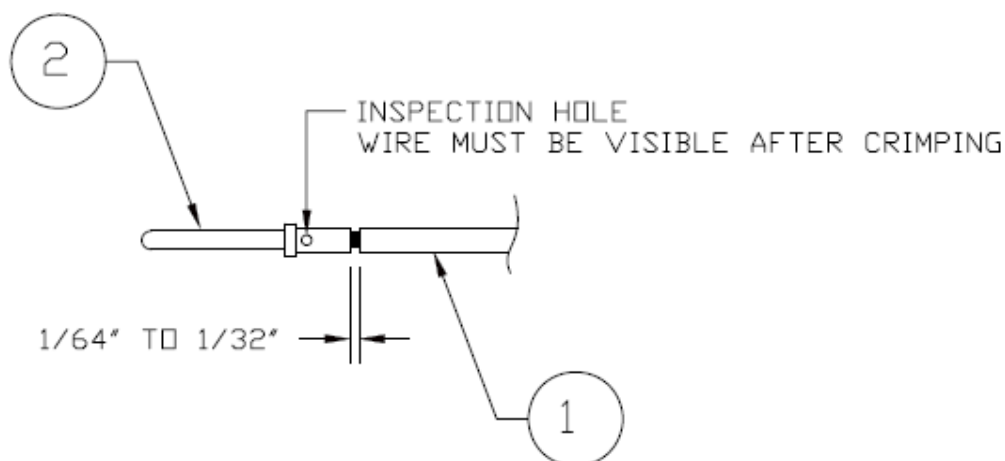
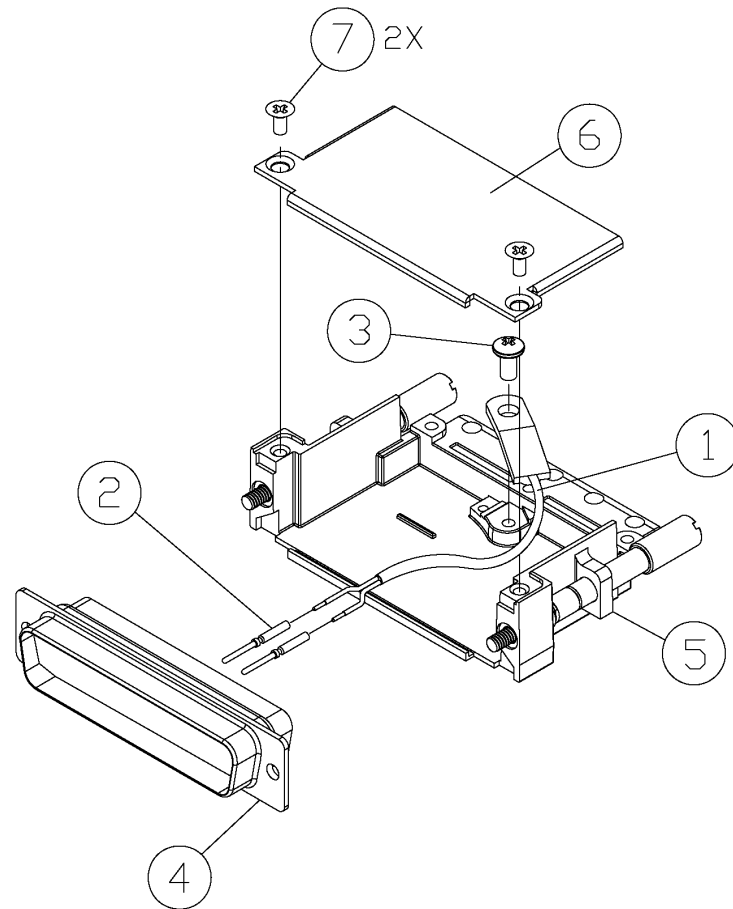

Figure 16-1 Insulation/Contact Clearance
Figure 16-2 Jackscrew Backshell Thermocouple Installation
For the following steps please refer to indicated item numbers in Figure 16-1 and Figure 16-2.
1. Strip back approximately 0.17 inches of insulation from both the positive and negative thermocouple leads (item 1) and crimp a pin (item 2) to each lead. It is the responsibility of the installer to determine the proper length of insulation to be removed. Wire must be visible in the inspection hole after crimping and the insulation must be 1/64 – 1/32 inches from the end of the contact as shown in Figure 16-1.